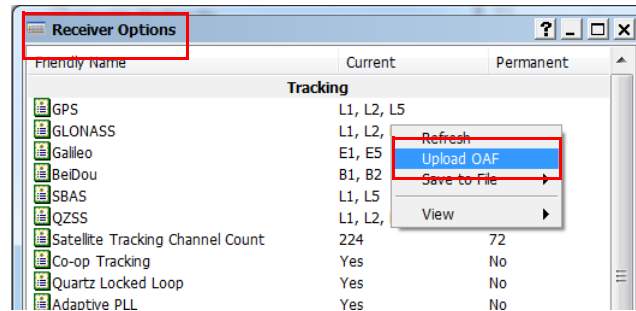

Figure 5-6: Right-click and Select Upload OAF
2. Right-click on the **Receiver Options** window and select **Upload OAF** (Figure 5-6).